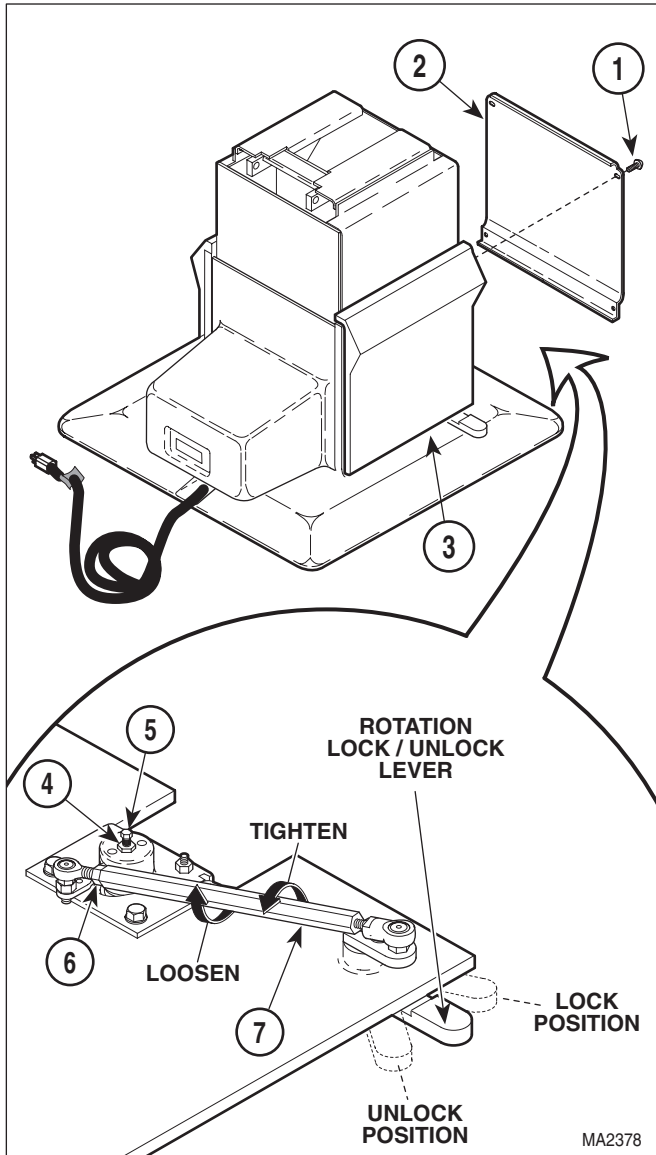

Figure 4-39. Brake Adjustment
- (1) Raise TABLE UP function all the way up.
- (2) Unplug table power cord from outlet.
- (3) Remove four screws (1, Figure 4-39) and front outer shroud (2) from left and right hand outer shrouds (3).
- (4) Move ROTATION LOCK / UNLOCK lever to UNLOCK.
- (5) Loosen nut (4) fully.